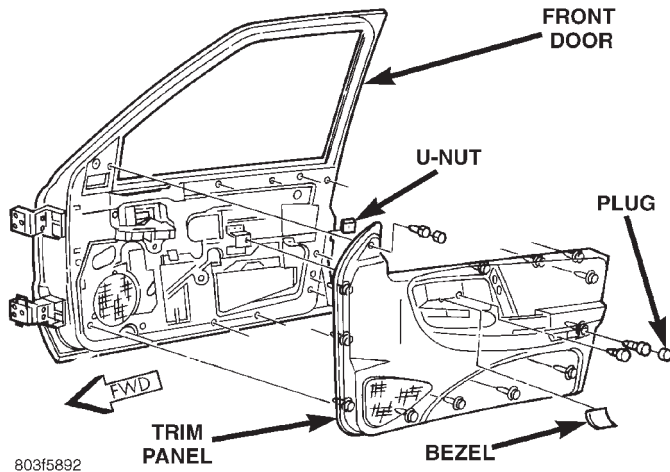

Fig. 2 Front Door Trim Panel Remove/Install
- (1) Disconnect and isolate the battery negative cable.
- (2) Remove the bezel near the inside door latch release handle by inserting a straight-bladed screwdriver in the notched end and prying gently upwards.
- (3) Remove the door trim panel mounting screw located in the bezel opening near the inside door latch release handle (Fig. 2).